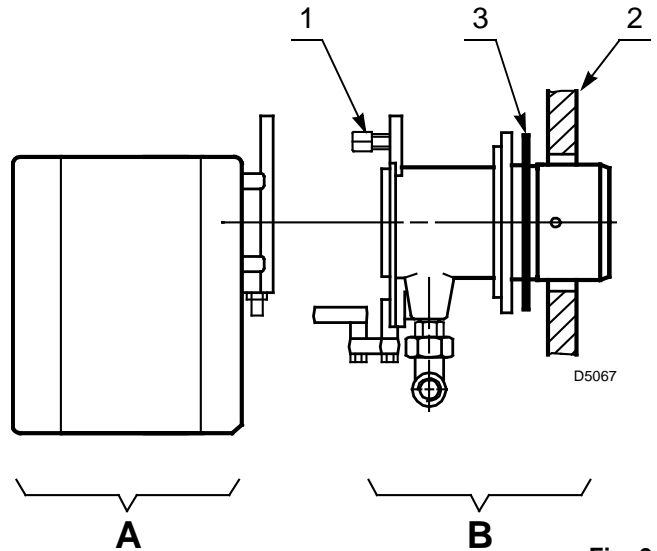

Fig. 9
- body by removing nut 1) and removing the group A)(Fig. 9).
➤ Fix the group B)(Fig. 9) to the boiler plate 2), inserting the supplied insulating gasket 3).